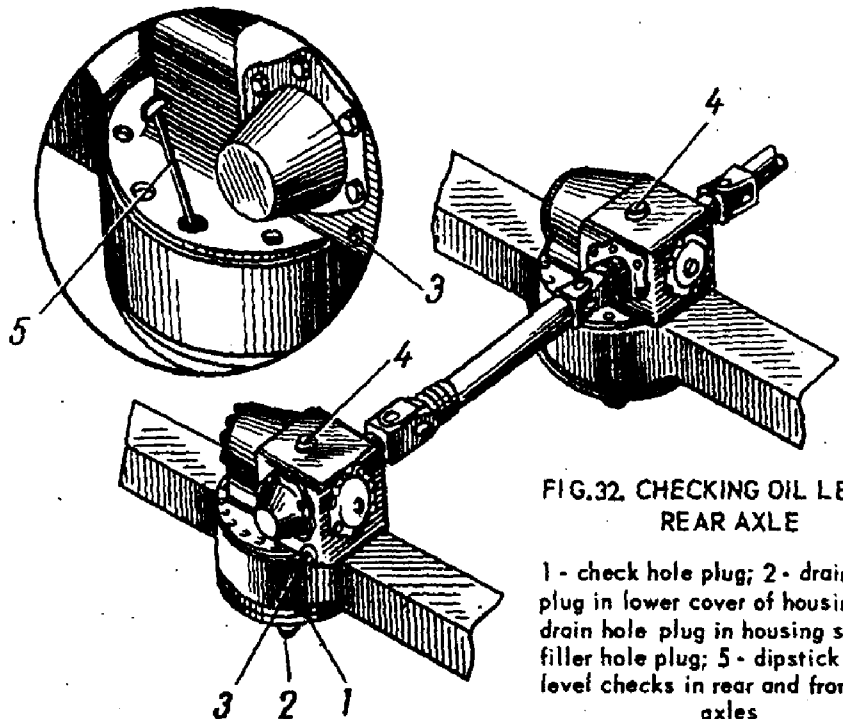

FIG.32. CHECKING OIL LEVEL IN REAR AXLE
39. Check the oil levels in the gear box, driving axles transfer case, and the hub of the walking-beam suspension of the ЗММ-131 truck (Fig.18a,b,c,d,e and f). If needed, top up the oil to the check plug hole. Special dipstick 5 is used to check the oil level in the front rear and rear driving axles on truck ЗММ-131 (Fig.32).